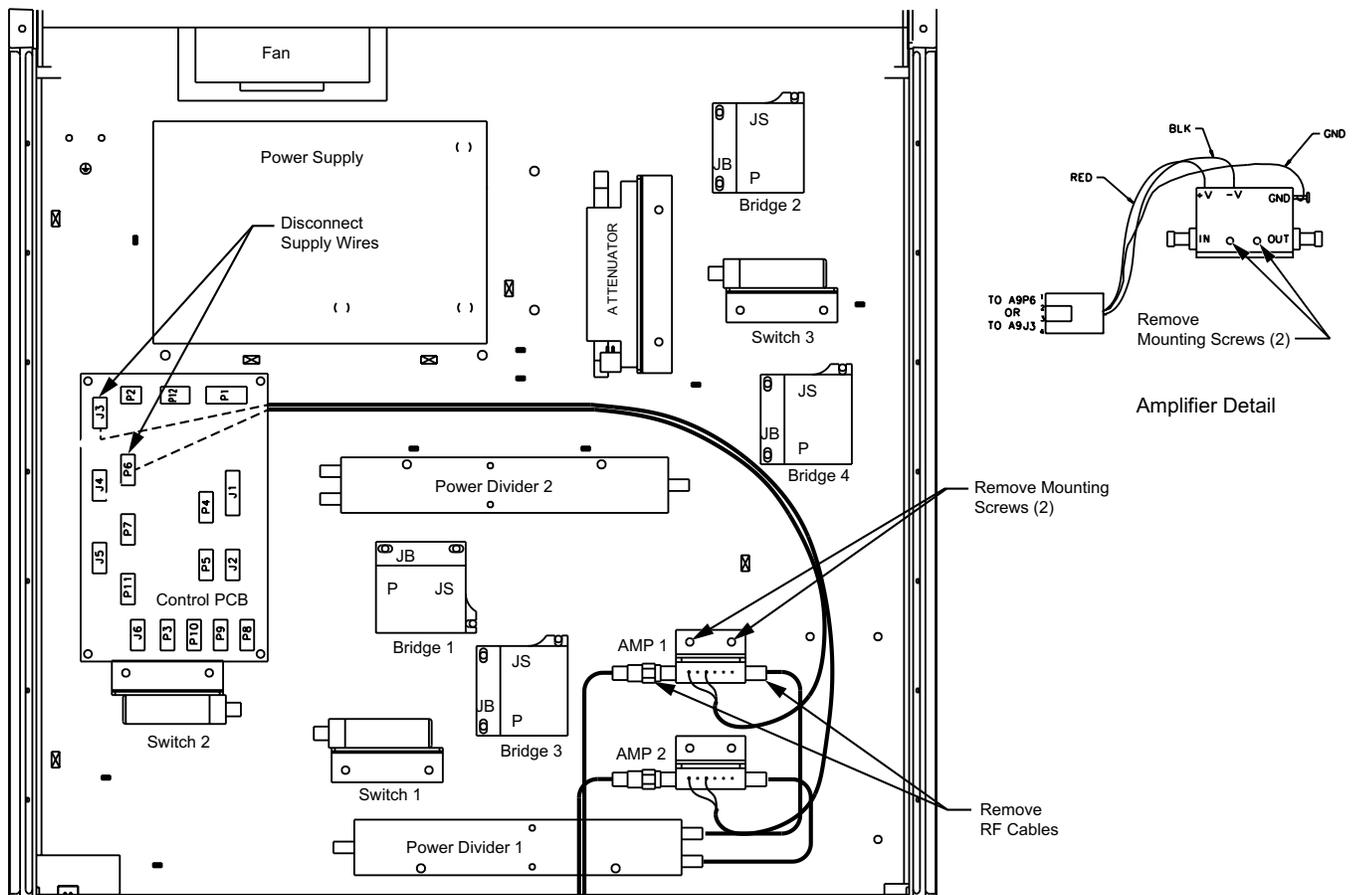

Figure 5-3. Amplifier 1 and Amplifier 2 Removal
- Step 2.** Disconnect the two RF cables from the RF amplifier with a 5/16-inch wrench (Figure 5-3).